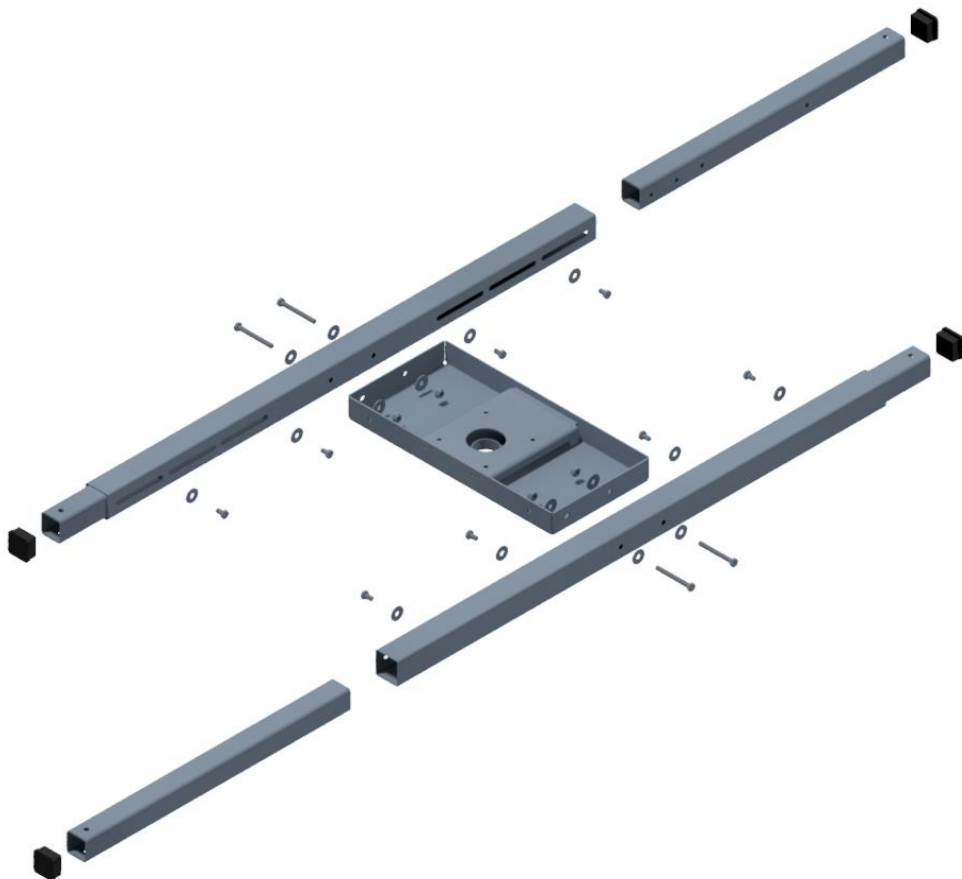

Figure 3 Basic frame of the Enmix Basic
3. Place the basic frame parts (2) next to this, with the slots facing inwards.
4. Attach the basic frame parts (2) to the motor mounting tray (6) using the following parts. If a shaft guide (7) will be used, the bolts should only be hand-tightened at this stage. Ensure that the nuts are attached at the motor mounting tray (6) side.
5. Place the frame extensions (1) in the basic frame (2); the tapped holes must face inwards and the black caps must extend out of the basic frame.
6. Ensure that the attachment holes of the frame extensions (1) are adjusted to the correct centre-to-centre distance of the liquid tank.
7. Attach the frame extensions (1) to the basic frame (2) using the following parts:
8. For extra information about the assembly, see Figure 3.